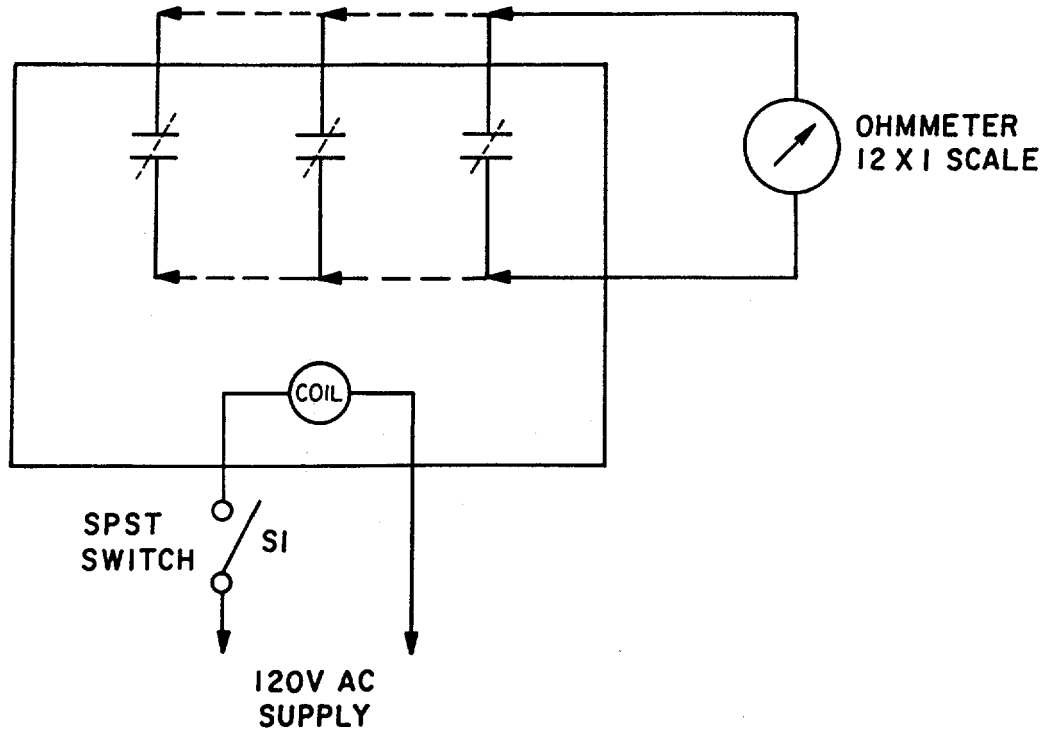

Figure 5-22. Relay Test Setup
- (1) Test any of the three relays by connecting as shown in figure 5-22.